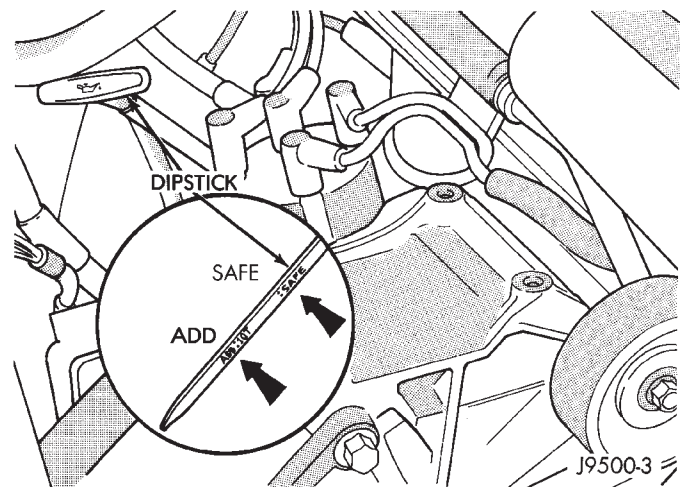

Fig. 4 Engine Oil Dipstick—2.5L Engine
To ensure proper lubrication of an engine, the engine oil must be maintained at an acceptable level. The acceptable levels are indicated between the ADD and SAFE marks on the engine oil dipstick (Fig. 4 and 5).
- (1) Position vehicle on level surface.
- (2) With engine OFF, allow approximately ten minutes for oil to settle to bottom of crankcase, remove engine oil dipstick.
- (3) Wipe dipstick clean.
- (4) Install dipstick and verify it is seated in the tube.
- (5) Remove dipstick, with handle held above the tip, take oil level reading (Figs.4 and 5).
- (6) Add oil only if level is below the ADD mark on dipstick.